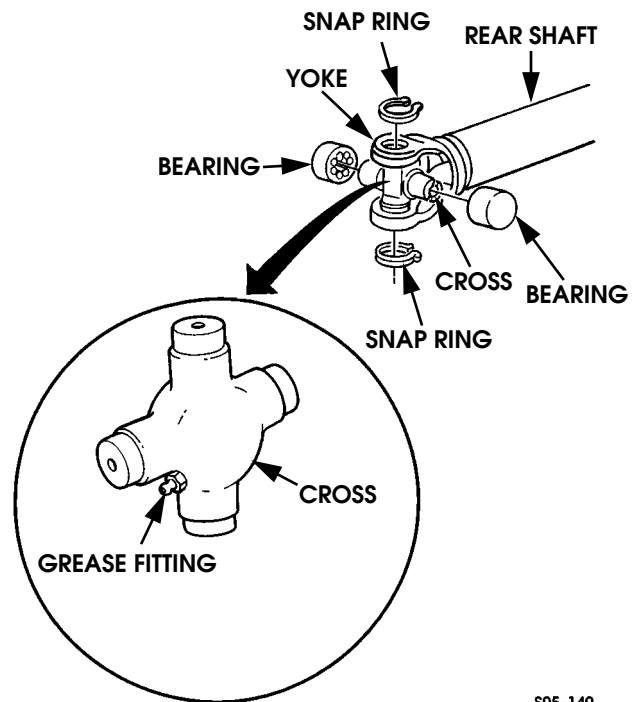

Figure 9-119: U-joint Components (Typical)
3. Inspect condition of U-joint cross and bearings at each end of shaft (Figure 9-119). Replace either U-joint if worn, loose, seized. Refer to U-joint replacement in this section.